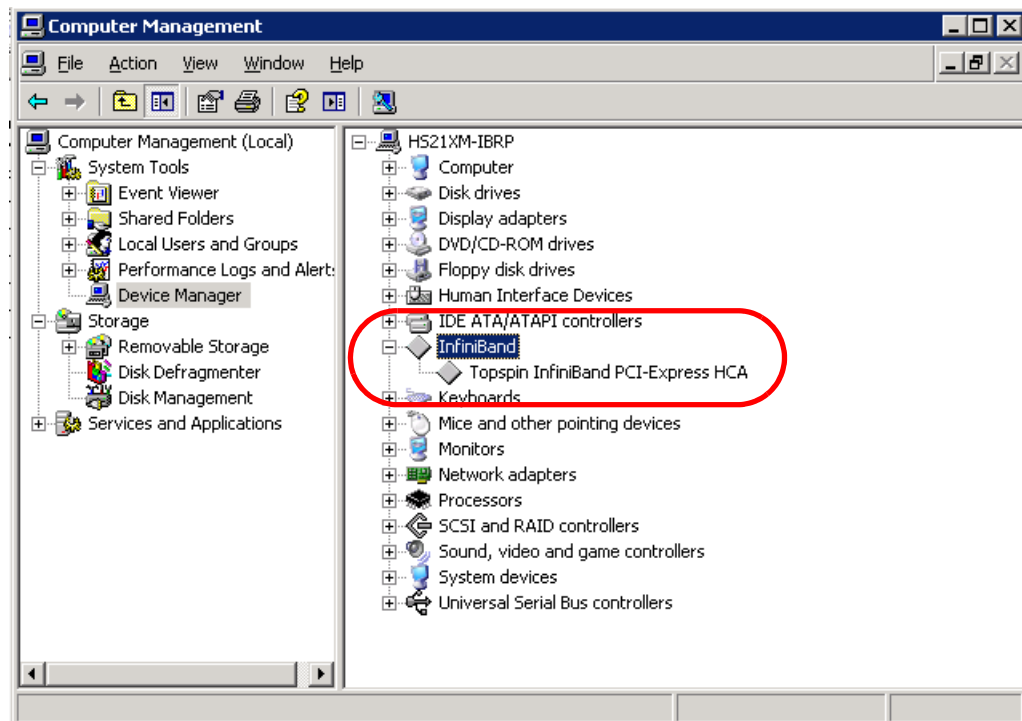

Figure 5-6 Verify InfiniBand Host Channel Adapter from the Device Manager menu
2. Open Device Manager to verify that the InfiniBand HCA is listed as shown in Figure 5-6.